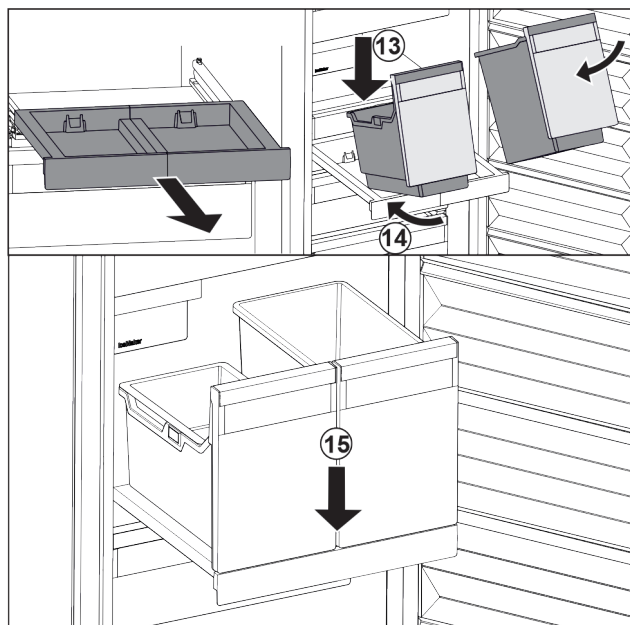

Fig. 123
- ▶ Place the container at an angle on the pull-out board. Fig. 123 (13)
- ▶ Slide the container to the back at an angle. Fig. 123 (14)
- ▶ Place container in the front. Fig. 123 (15)